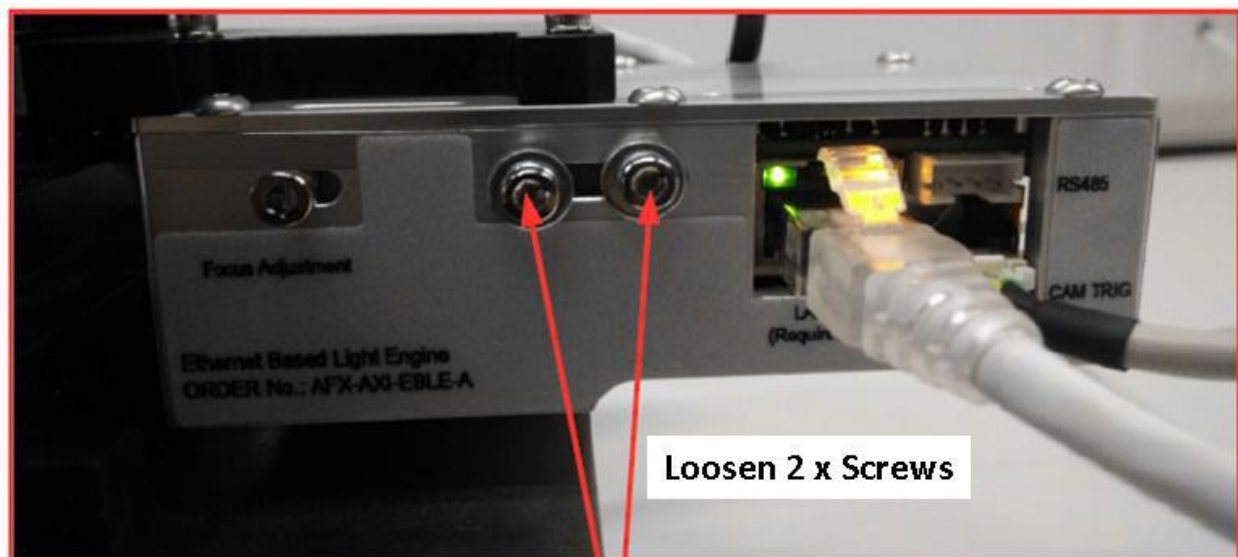

Figure 48 EBLE Projector
47. Loosen 2 X Screws at EBLE Projector as below Figure 48.